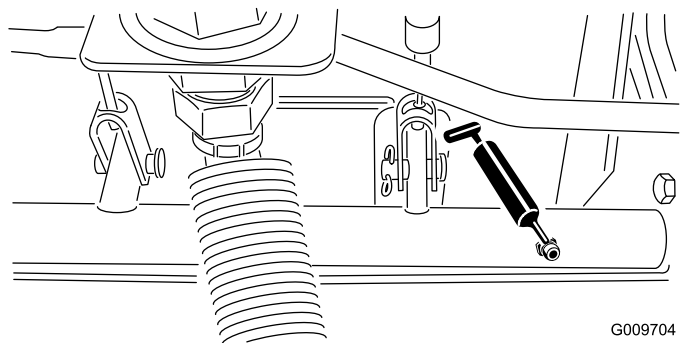

Figure 41
- Brake shaft pivot bearings (5) (Figure 41)